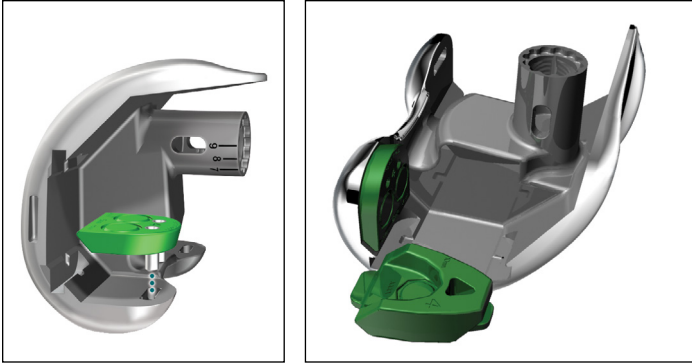

Figure 118
- ▶ **Without offset:** Assemble all Posterior and Distal Femoral Augment Trials prepared for onto the appropriate size Femoral Trial. Ensure that both Distal Femoral Augment Trial tabs have engaged the undercuts of the Femoral Trial (**Figure 118**).